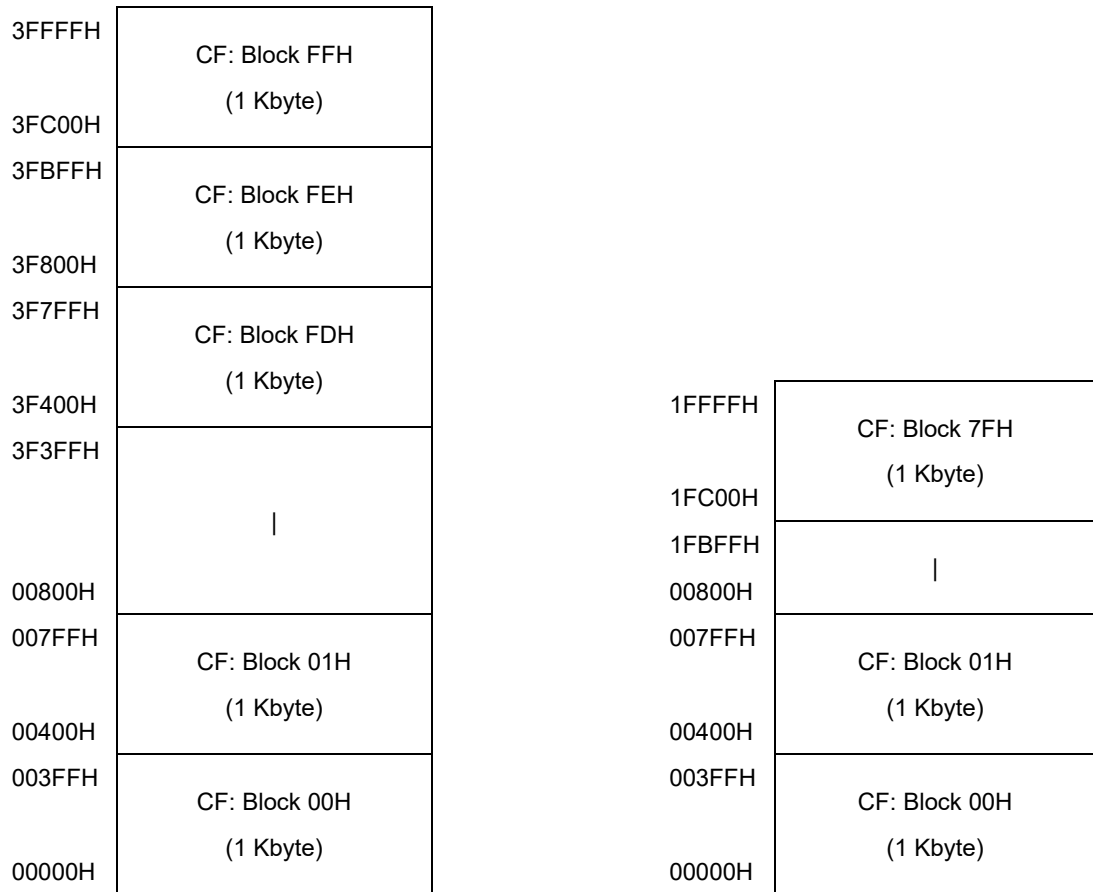

Figure 2-5 Blocks in the Code Flash Memory
Figure 2-5 shows the allocation of blocks in the code flash memory (CF).
(1) RL78/F24 (Code flash memory: 256 Kbytes)
(2) RL78/F23 (Code flash memory: 128 Kbytes)